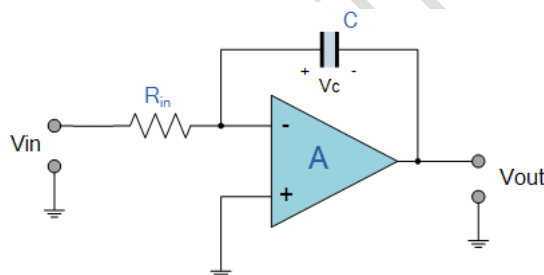

Fig.Q1 (b) An Operational amplifier integrator Circuit
A summing inverting negative feedback operation circuit, as shown in Fig. Q1 (b) with V_{in} , resistors R_{in} and capacitor C , and an output of V_{out} .
i) Derive the formula for the output of the circuit in Fig.Q1(b) in term of R_{in} , C and V_{in} .